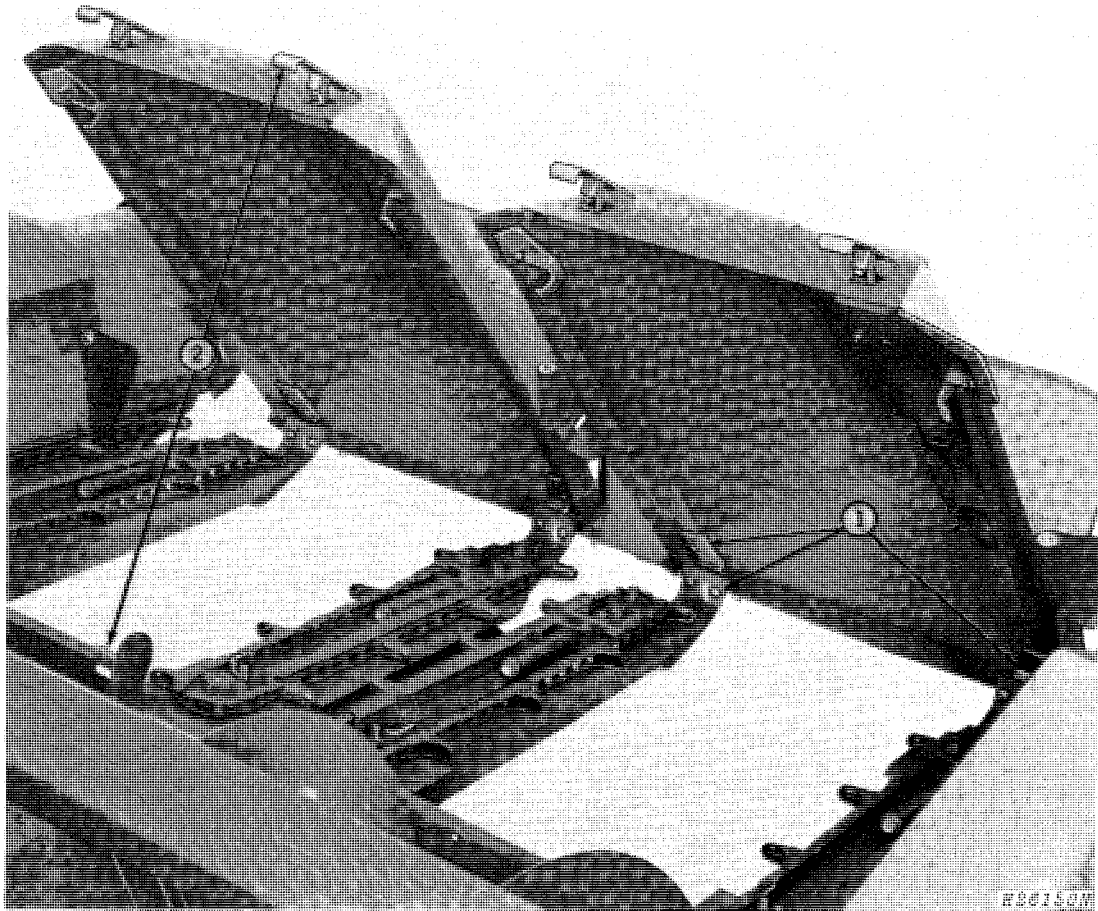

Fig. 95-Installing Center Gatherer Points and Center Shields
1. Insert center shield hinges into hinges on row units (Fig. 95).
2. Tip center shields down and attach center shield latches to attaching points (Fig. 95). Adjust latches if required.